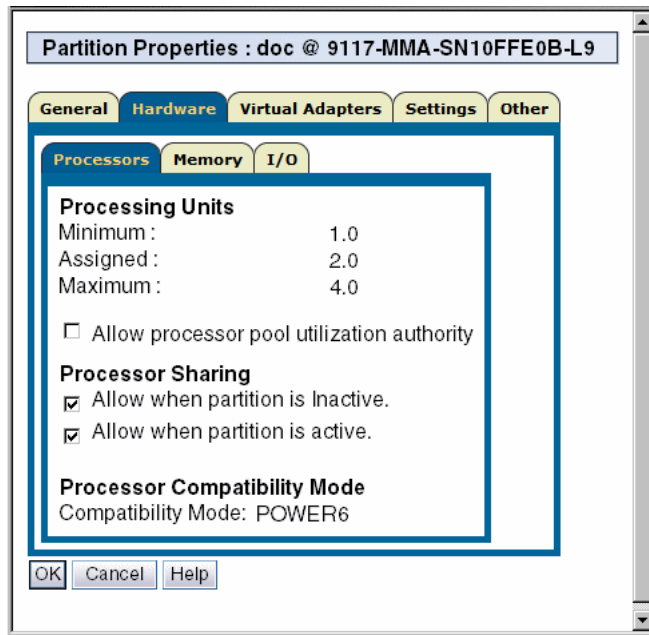

Figure 7-4 Processor sharing
3. To configure the managed server as a processor donor and open the window as shown in Figure 7-4, select **Systems Management** then select the name of the server. Select the name of the partition to view the partition properties.